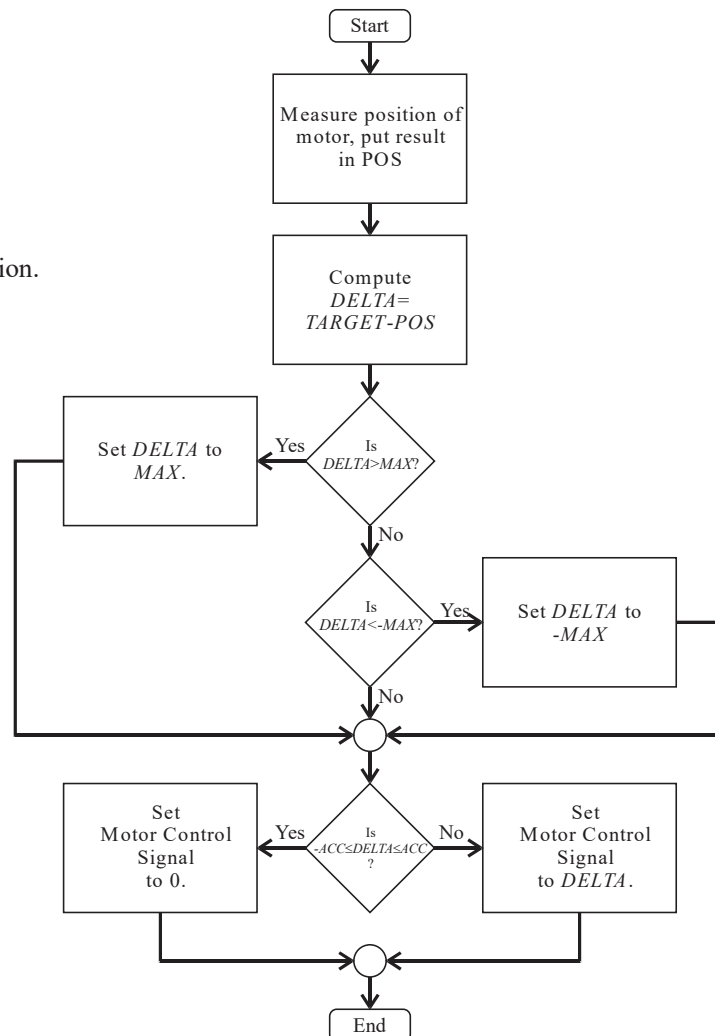

Figure 5: Motor Control Algorithm
A simple solution to this problem is to use a positional feedback control algorithm as shown in Figure 5. This algorithm takes in three input parameters: *POS* which specifies the target position of the motor, *MAX* which specifies the maximum amplitude of the control signal, and *ACC* which specifies the intended accuracy of the control. The control algorithm uses these input values as well as the current measured position to compute a control value and then sends this a value to the motor. For each iteration of a control loop, this algorithm measures the position of the motor, computes the difference between the current position and target position, and then sends a control signal to the motor based on this difference. If the difference is within the desired accuracy setting of the algorithm then the motor control signal is set to zero. If the magnitude of the difference between the desired position and current position is greater than the desired maximum amplitude of the control signal, the motor is sent either *-MAX* or *+MAX* depending on whether the current position is greater or less than the target position, respectively. If the magnitude of the difference is less than the desired maximum magnitude then the motor is sent the difference as the control signal. The net result is that the motor is given a large control signal if the motor position is far from the target position and this control signal's magnitude is reduced as the motor moves closer to the target position. As a result, the motor slows down as it approaches the target allowing for more precise control.
- a. This code is a very basic controller which runs the motor at a constant magnitude with a sign determined by the difference from the target and measured position. This code will work but will constantly switch the motor direction when the position is near the target value and will have a large error value. You will improve the performance greatly by implementing the algorithm in Figure 5 in step 4 below.
4. Implement the algorithm shown in Figure 5 in the `set_motor()` function. The `set_motor` function should compare the `target` input argument and compares it with the currently measured motor shaft angle and then sends the appropriate control value to the motor for a single iteration of the algorithm shown in Figure 5. Set the initial values of the parameters to be `MAX=50` and `ACC=10`.